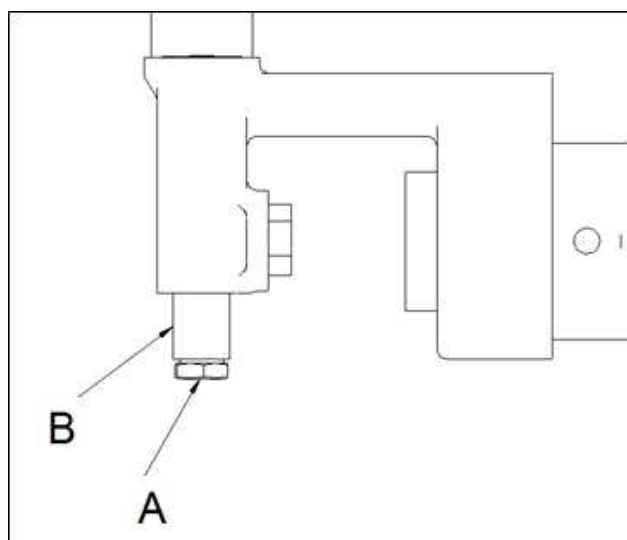

FIG. 1
3.1 CONTRÔLE DE LA PRESSION D'ALIMENTATION (Fig. 1)